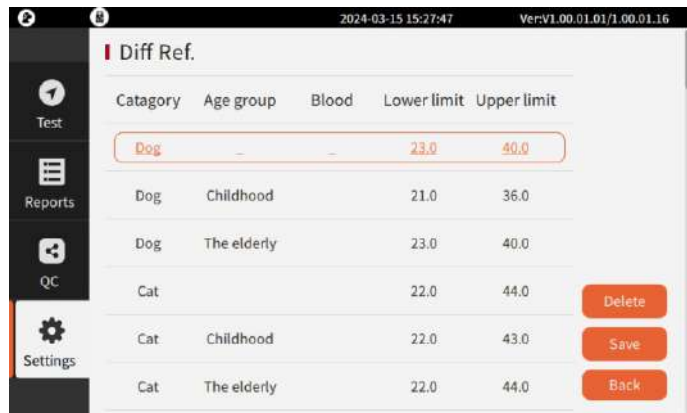

Figure 4-6
"Diff Ref." (Difference Reference) settings: Click "Diff Ref." in the interface shown in Figure 4-5 to enter the interface shown in Figure 4-6.
- Users can add and delete sample types and modify result markers at the end of the interface in Figure 4-6.